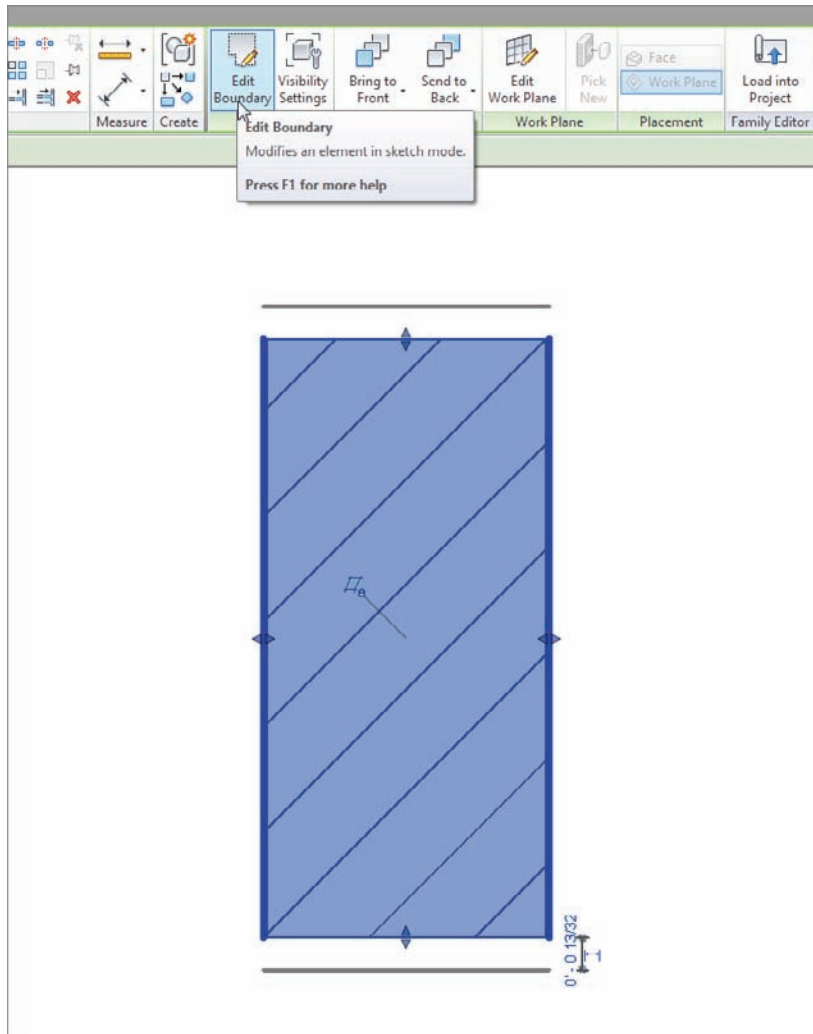

FIGURE 12.18 Editing the boundary of the filled region
8. Select the line that is hovering over the top of the brick, and mirror it to the bottom so you have a line above and a line below the brick, as shown in Figure 12.18.
9. Select one of the heavy lines that forms the outline of the brick (see Figure 12.18). Revit indicates that this is a filled region, as revealed in the tooltip that appears when you hover your pointer over one of the boundaries.
10. On the Mode panel of the Modify | Detail Items tab, click the Edit Boundary button (see Figure 12.18).